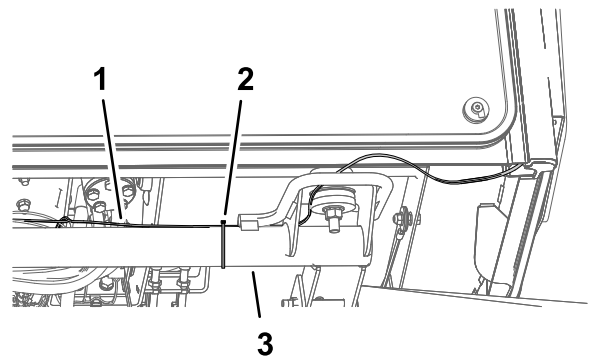

**Figure 23**
6. Remove the hardware from the light (Figure 22 or Figure 23).
7. Discard the existing bracket and hardware shown in Figure 22 and Figure 23.
8. Install the new bracket with the hardware from the light (Figure 22 and Figure 23).
9. Install the lights to the machine as shown in Figure 22 and Figure 23.
10. Install the short harness into the back of the light (Figure 22 or Figure 23).